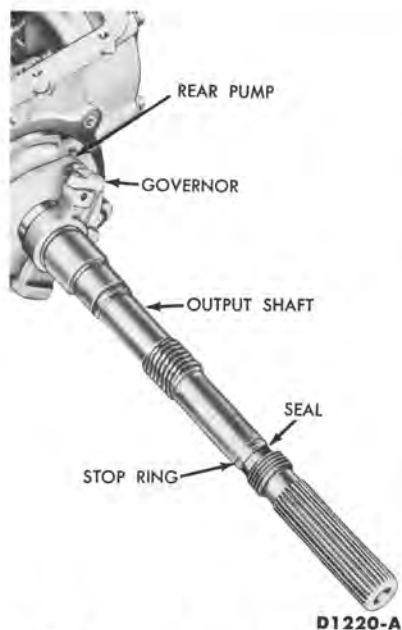

FIG. 3—Output Shaft and Governor
2. Remove the governor (Fig. 3) and the governor drive ball.
6. Remove the governor pressure seal rings from the output shaft (Fig. 3).